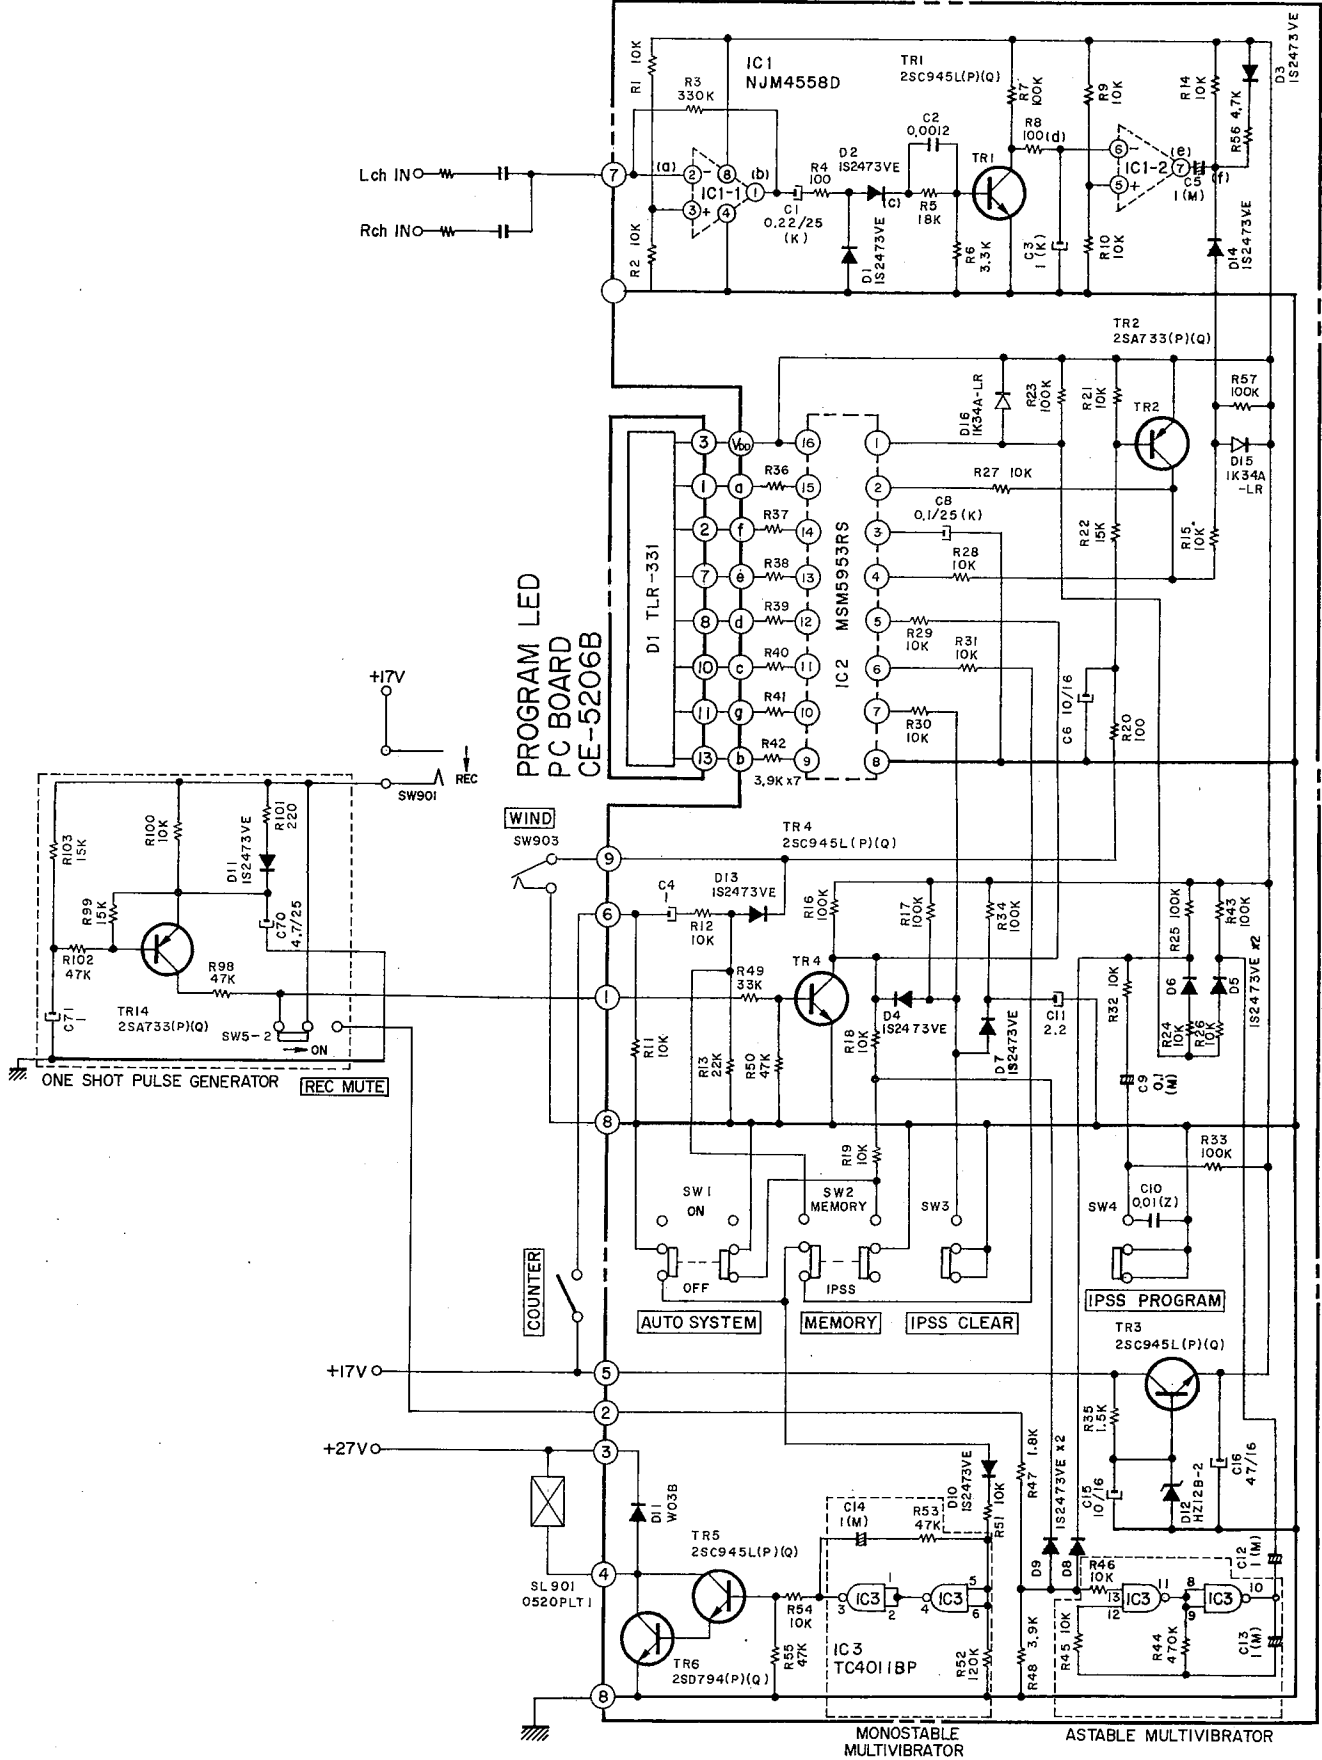

Fig. 6 IPSS/MEMORY SYSTEMS SCHEMATIC DIAGRAM
2. CIRCUITRY DETECTING THE NO SIGNAL PORTION (Refer to Figs. 6, 7, & 8)
5. MONOSTABLE MULTIVIBRATOR OPERATION (Refer to Fig. 6)
6. ONE SHOT PULSE GENERATOR (Refer to Fig. 6)